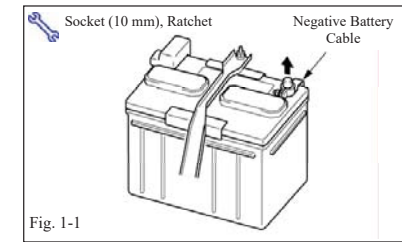

Fig. 1-1
- (b) Shift into neutral (N), and then unscrew the shift knob.
- (c) Remove the negative battery cable. (Fig. 1-1)
- (1) Protect the fender before starting.
- (2) Do not touch the positive terminal with any tool when removing cable.